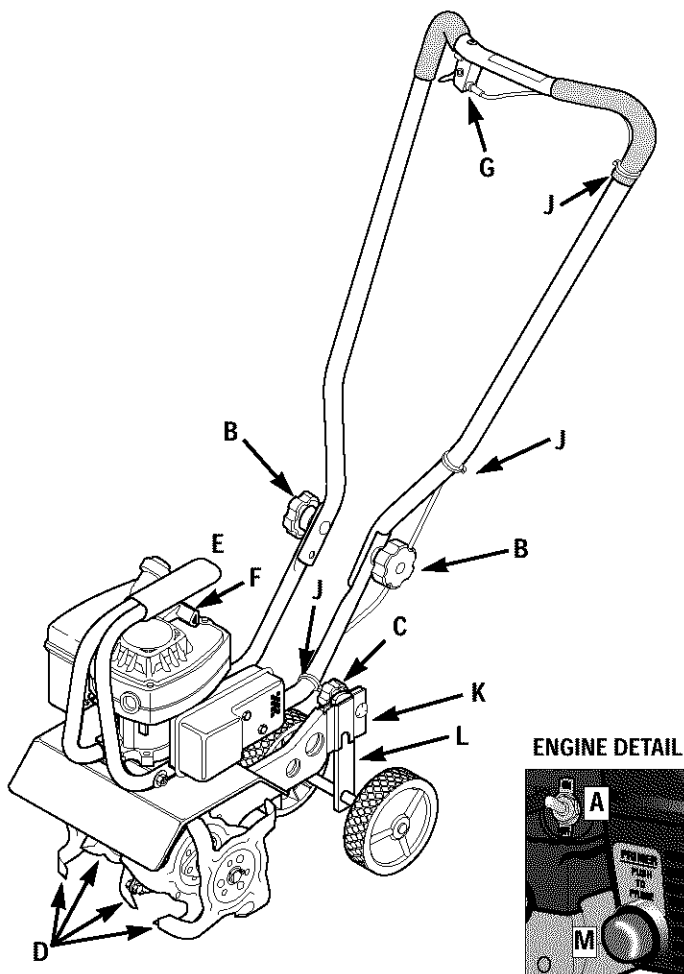

Figure 5: Features and controls.
Handlebar Height Adjustment Knob (B, Figure 5)
Tilling Depth Adjustment Knob (C, Figure 5)
Adjustable Tine Patterns (D, Figure 5)
Carrying Handle (E, Figure 5)
Engine On/Off Switch (A, Figure 5)
Throttle/Tines Lever (G, Figure 5)
Engine Recoil Start Rope (F, Figure 5)
Fuel Primer Bulb (M, Figure 5)
3. Check the three plastic cable ties (J, Figure 5). Be sure that cables and ties are positioned as shown. Do not kink or pinch the control cables in the handlebar.
To stop the engine, move the engine On/Off Switch (A, Figure 5) to the OFF position.